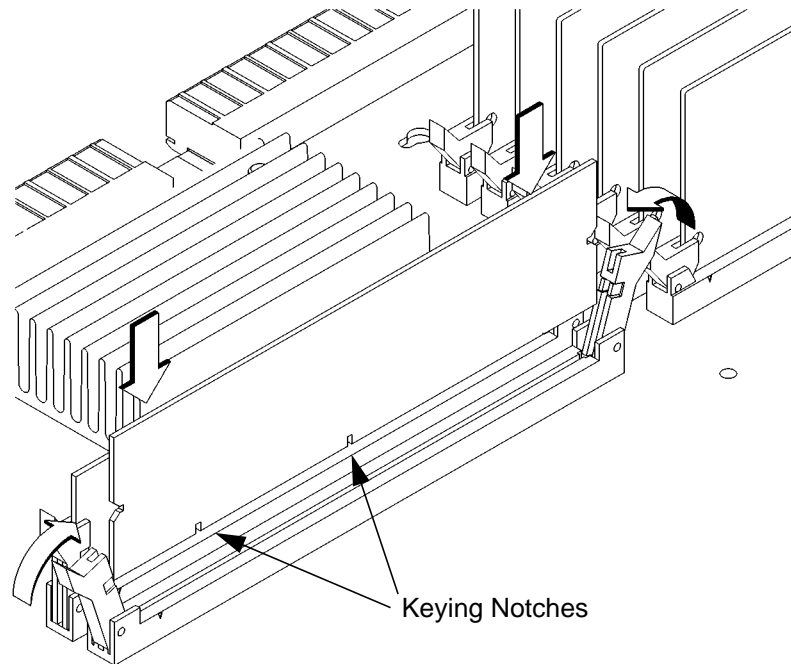

Figure 51 **Installing Cache Boards**
- 2 Open the ejector tabs on each side of the cache connector and line the cache board up with the guides making sure that the keying notches along the connector edge of the board are away from the memory modules, as shown in Figure 51.